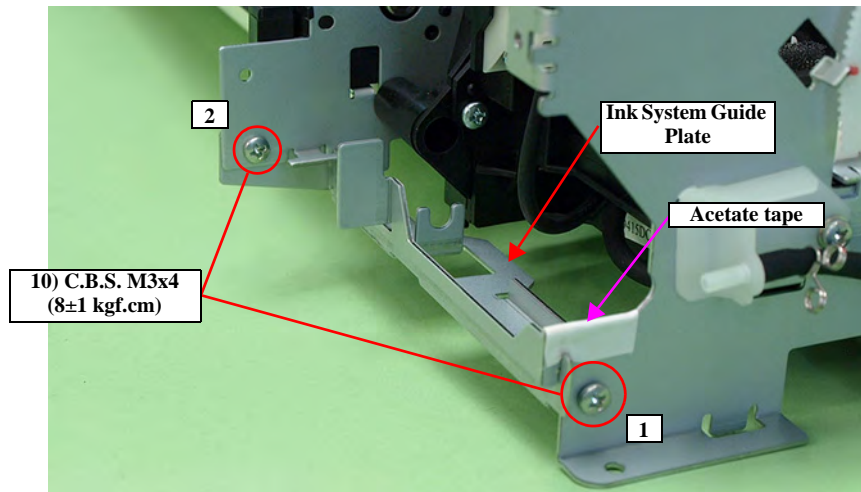
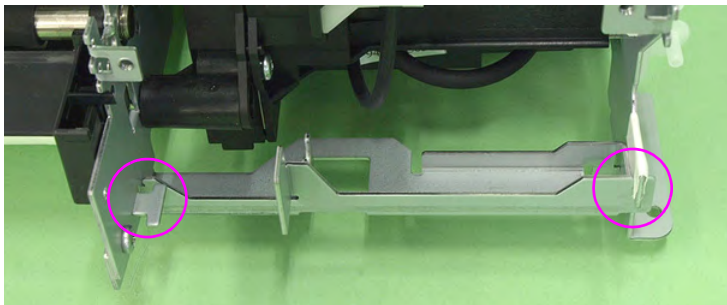

Figure 4-110. Removing the Ink System Guide Plate
Figure 4-111. Reinstalling the Ink System Guide Plate
- Referring to Figure 4-110 and Figure 4-111, attach a piece of acetate tape.
- Tighten the screws in the order shown in Figure 4-110